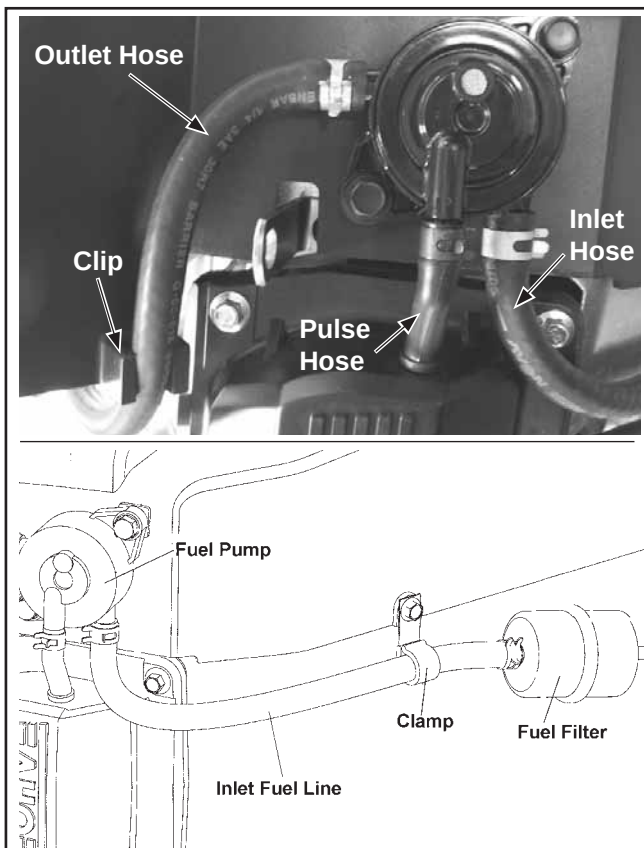

Figure 10-82. Fuel Pump Details.
3. Connect the inlet and outlet fuel lines to the pump. Route inlet hose through the fuel line clamp (if used) as shown, and seat outlet hose in the blower housing clip. See Figure 10-82.